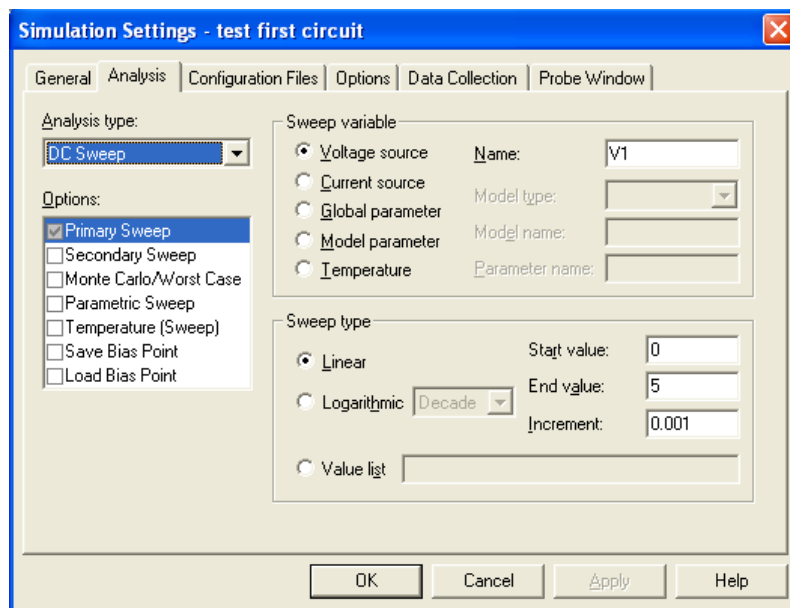

Figure 11 – DC Sweep simulation settings
- f. Change the Analysis Type to “DC sweep”. DC sweep allows you to vary the source(s) values and monitor circuit operation according to the variations. In the “Sweep Variable” part, choose “Voltage source” and Name: V1. In the “Sweep Type” part, choose “linear”, fill in start value 0V; stop value 5V and increment 0.001V. (You don’t need to indicate “V” in the textbox as volt is default unit.) See Figure 11 as well.